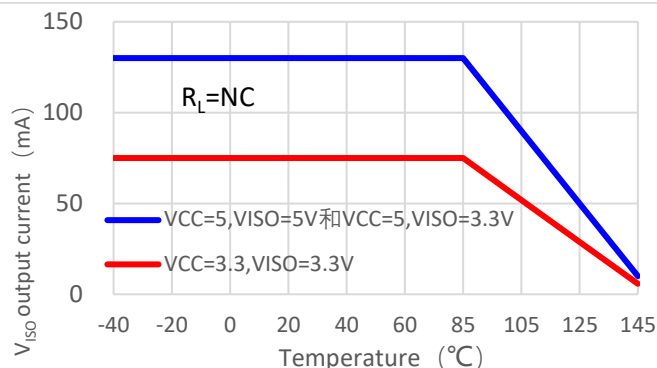
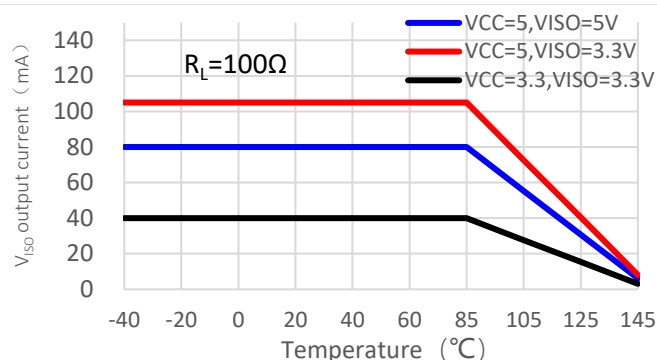

Figure 7-14.
Figure 7-16.
1. $DE = V_{CC}$, $\overline{RE} = 0V$, $DI = 0V$ or V_{CC} ; The available output current from V_{ISO} will be reduced when $T_A > 85^\circ C$, see Figure 7-14, Figure 7-16, Figure 7-18, the maximum output current of V_{ISO} vs. temperature.
The maximum output current from V_{ISO} is shown as Table 9-6. Note that the I_{ISO} value in Table 9-6 is the maximum output current at +25°C with data rate x load capacitance < 0.5Mbps × 2nF for CA-IS3092W/CA-IS3092VW (20Mbps × 200pF for CA-IS3098W/CA-IS3098VW). As the increase of temperature, especially when the temperature exceeds +85°C, the maximum load current will be decreased, see more details in Figure 7-14, Figure 7-16, and Figure 7-18.